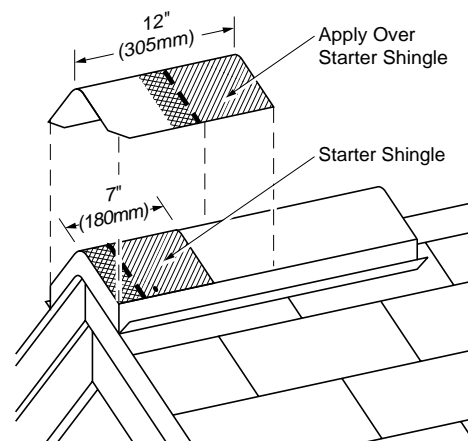

Figure 15-15: Apply a full cap shingle over the starter piece, flush with the bottom and side edges of the starter.
- Install caps beginning at the bottom of a hip or at either end of a ridge. Apply a starter piece that has the bottom 5" removed (Figure 15-15). Fasten the starter with two nails located about 3" from the rake edge, and 1" in from each side edge. Make sure fasteners used to apply caps penetrate at least 3/4" into or through the decking.
- Apply a full cap shingle over the starter (Figure 15-15), and place fasteners at 5 5/8" (6 1/4" for metric) up from the exposed bottom edge and 1" in from each side. Nails must not be exposed on the finished roof. All nail heads must be driven straight and must not cut into the shingle surface.